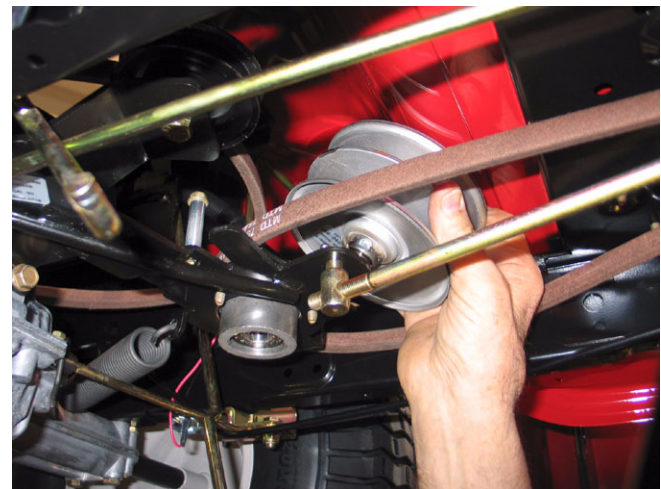

Figure 39
- 9.8. Raise the variable speed pulley up and out of the idler bracket. See Figure 39.